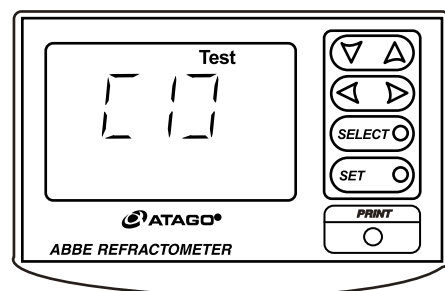

Fig. 7-3
- ③ Press the SELECT key to show "Test" in the mode indicator. With indication of "Test", [1] appears in the measurement value indicator (Fig. 7-3). The test mode number [1] is for the reference point adjustment.